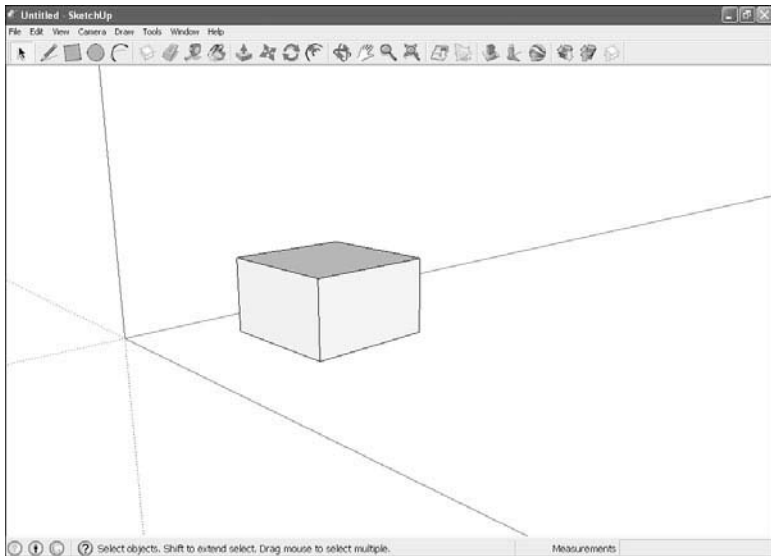
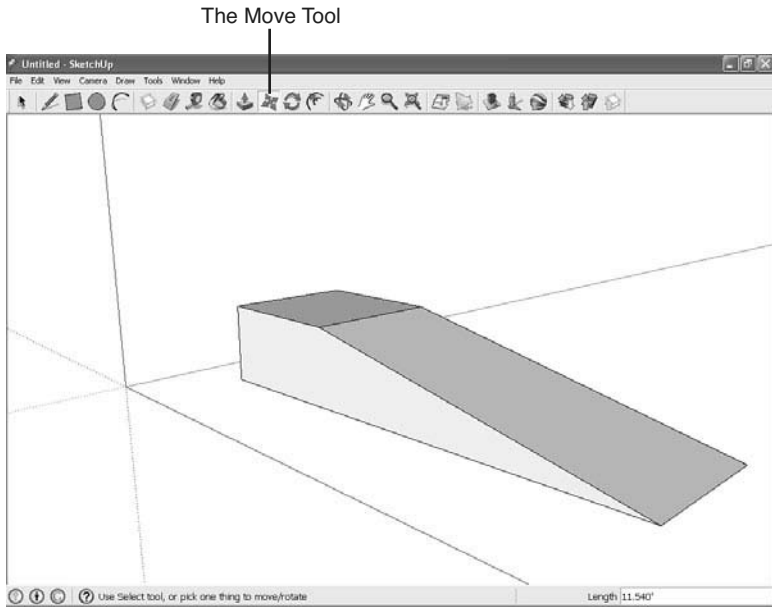

FIGURE 5.18 A cube.
FIGURE 5.19 A ramp created by using the Move tool.
You can use the Move tool to pull edges into 3D. Take a look at the cube in Figure 5.18.
That's fine—but what if you wanted to draw a ramp instead, such as the one you see in Figure 5.19?
You can easily convert the cube in Figure 5.18 to the ramp in Figure 5.19 using the Move tool, which you can use to grasp edges and pull them into 3D (the Push/Pull tool lets you only push or pull surfaces).
4. Press the mouse button on the rectangle and drag the rectangle up to extend it into a 3D cube, as shown in Figure 5.18.
5. Select the **Move tool** in the toolbar (as shown in Figure 5.19).
8. Click the mouse at the location you want for the end of the ramp. When you do, the ramp becomes permanent (unless you erase it), as shown in Figure 5.19.